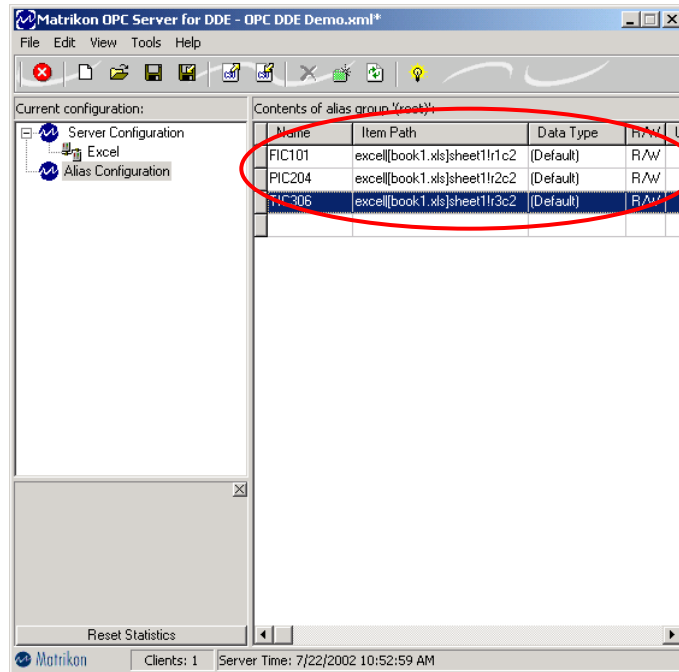

Figure 3-8. The Configuration screen with aliases entered.
- Click **Save** to save the alias, or **Save & Create New** to save the alias and enter another alias. When you have entered all the aliases, the **Configuration** screen should look like Figure 3-8.